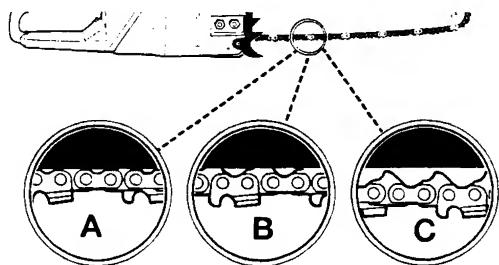

Fig. 23
CAUTION: If saw chain is TOO LOOSE or TOO TIGHT, the sprocket, bar, chain, and crankshaft bearings will wear more rapidly. Study Fig. 23 for information concerning correct cold tension (A), correct warm tension (B), and as a guide for when saw chain needs adjustment (C).